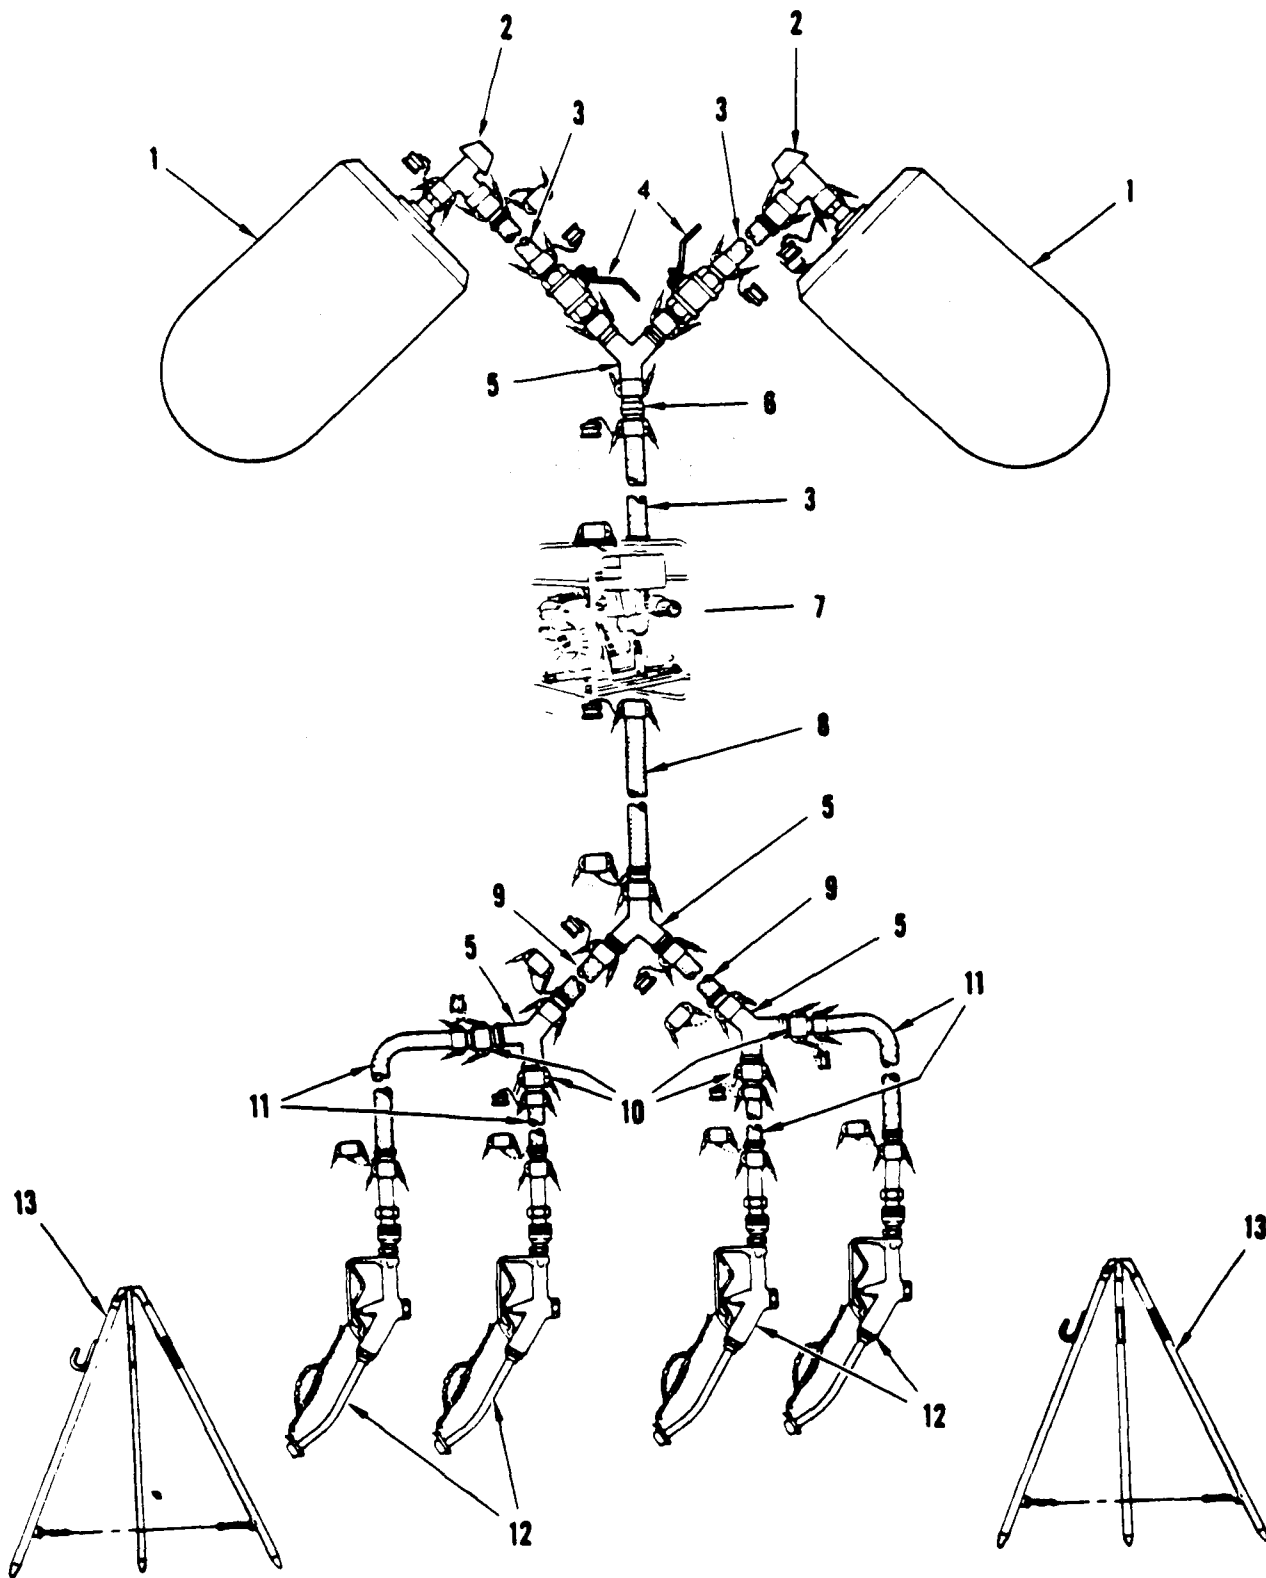

Figure 2-2. FAWPSS Set-up for Dispensing Water
- n. Connect discharge hose assy (3) to Y-connector (4).
- o. Connect female to male reducer (5) to male end of Y-connector (4).
- p. Connect discharge hose assy (6) to reducer (5).
- q. Unfold and position stand assy (8).
- r. Connect nozzle assy (7) to discharge hose assy (6).
- s. Attach nozzle assy (7) to bracket on stand assy (8).
- (1) Assure FAWPSS has been properly connected (figure 2-2). Refer to TM 10-8110-202-13&P for detailed water drum setup procedures.
- (2) Turn handwheel clockwise to open the elbow coupler valve assy (2) on each water drum (1).
- (3) Open two 2inch valve assy (4).